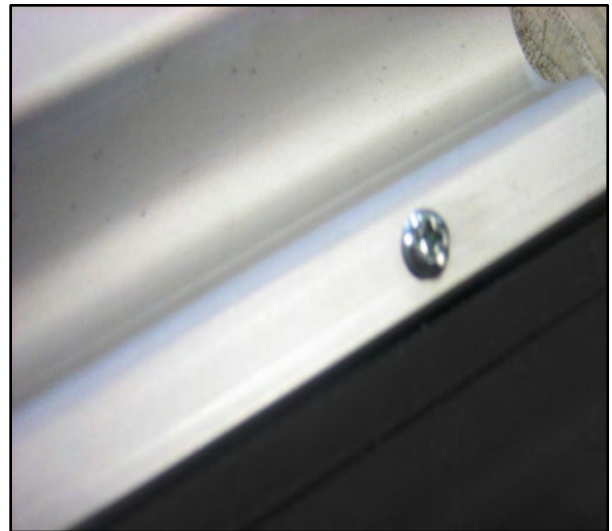

Figure 73
6. Remove and save the two small Phillips head screws securing the rubber reversing edge to the bottom door panel. Each screw is located 4 inches from the ends of the panel, above the reversing edge. (See Figure 73.)